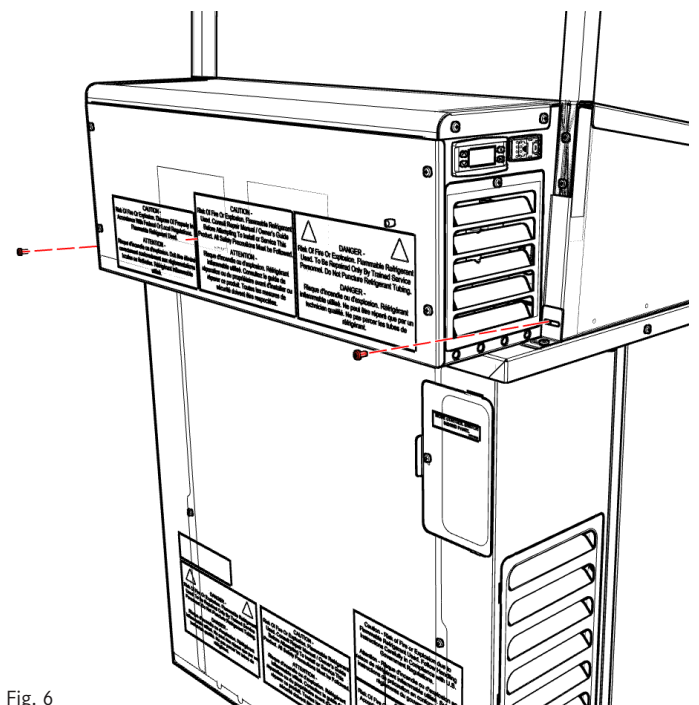

Fig. 6
Fasten Finishing Station top to Convertible Cooler Freezer by installing two (2) provided M5 × 12 screws through previously installed brackets (Fig. 6).